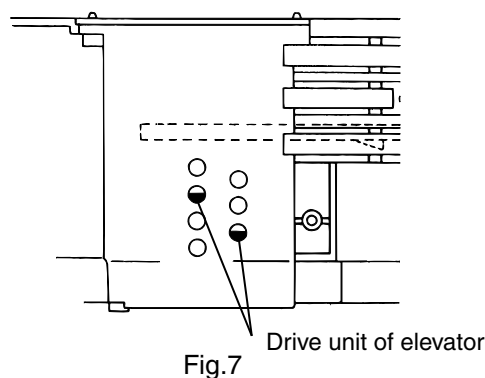
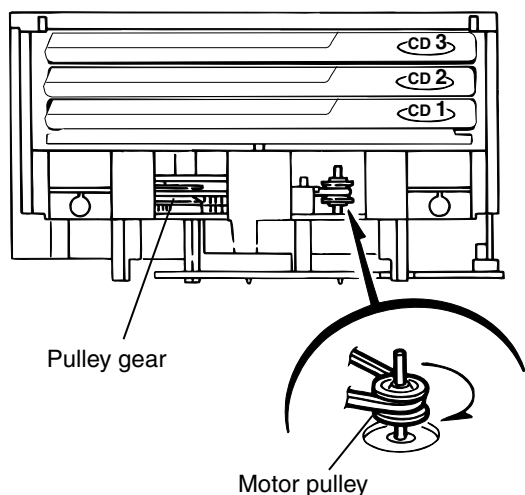

Fig.7
Fig.8
[Caution] In case the driver unit elevator is not at above position, set the elevator to the position as shown in Fig.7 by manually turning the pulley gear as shown in Fig.8.
13. Manually turn the motor pulley in the clockwise direction until the lifter unit stopper is lowered from the section "e" of CD tray assembly(See Fig.8).